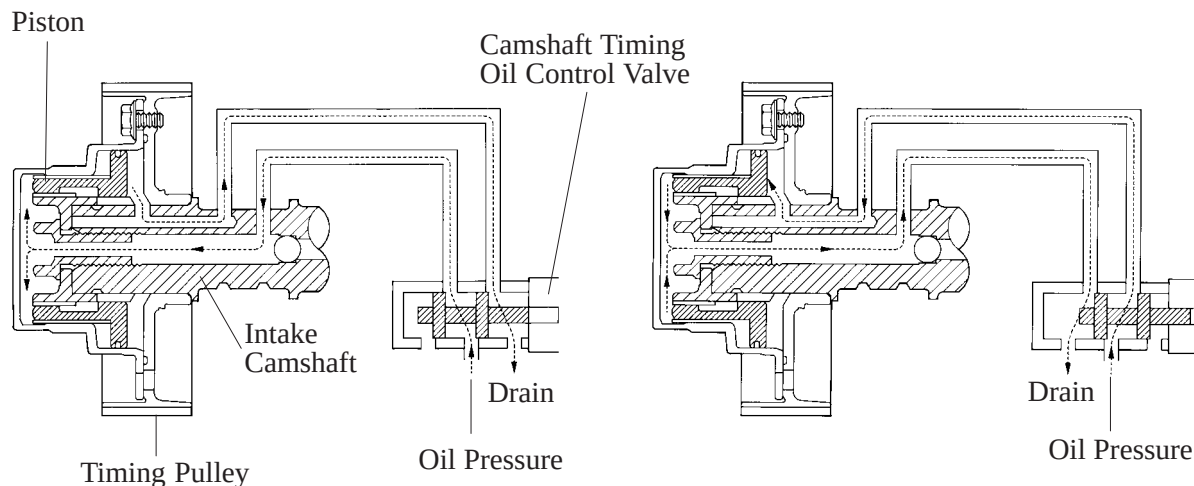

Fig. 1
- By the command of the engine ECU, when the camshaft timing oil control valve is in the position given in Fig. 1, hydraulic pressure is applied from the left side of the piston, which causes the piston to move to the right. Because of the twist in the helical splines that are cut out in the piston, the intake camshaft rotates in the advance direction in relation to the camshaft timing pulley. When the camshaft timing oil control valve is in the position given in Fig. 2, the piston moves to the left and rotates in the retard direction. Furthermore, the camshaft timing oil control valve shuts off the oil passages to maintain the hydraulic pressure at both sides of the piston, thus maintaining the phase at that position. This enables the phase to be set to a desired position.